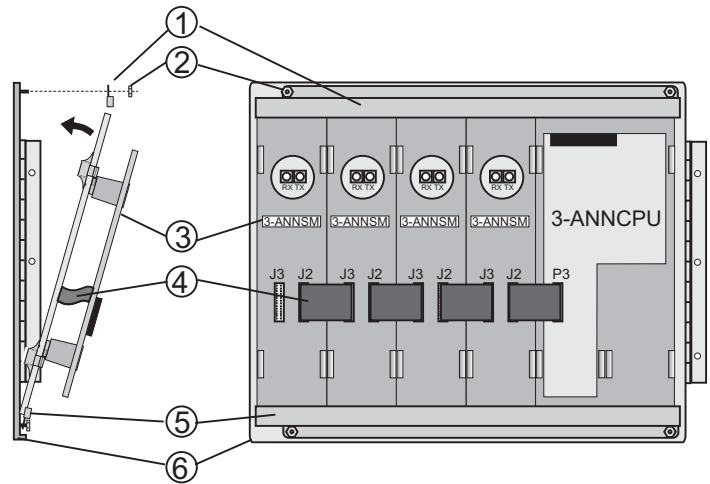

Figure 2
4. Install the module in the inner door of the enclosure (Figure 2.)